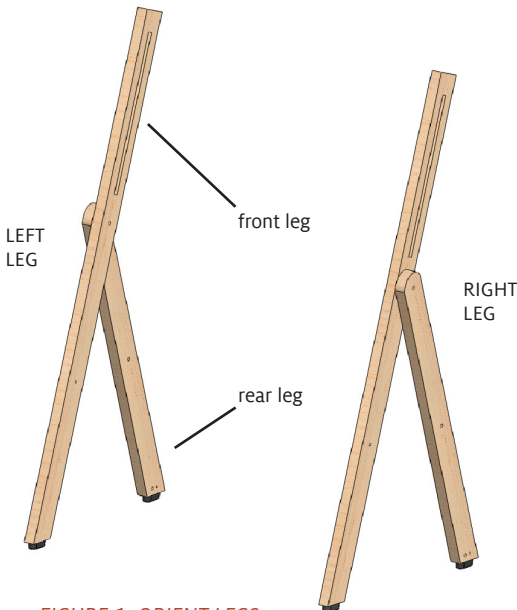

FIGURE 1: ORIENT LEGS
1. Orient the front legs (long) and rear legs (short) as shown in Figure 1, so that you have one left leg and one right leg.